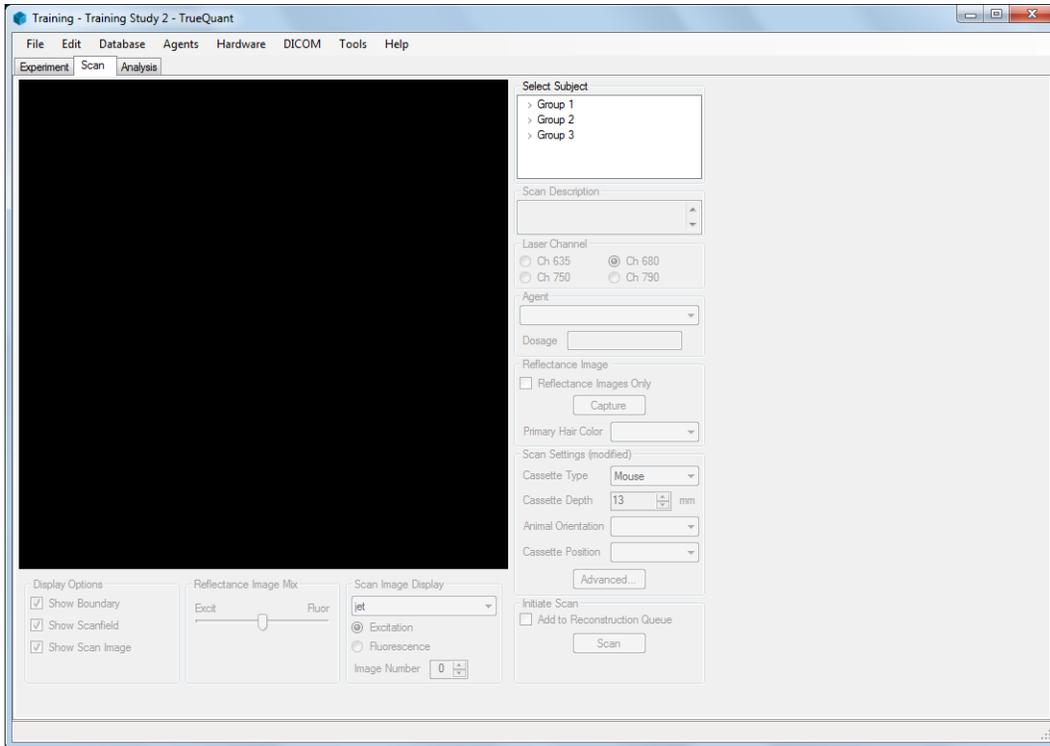

Figure 6-2. Initial view of the **Scan** tab
1. Click the **Scan** tab. The image area is blank and the only option available is the **Select Subject** list as shown in Figure 6-2.